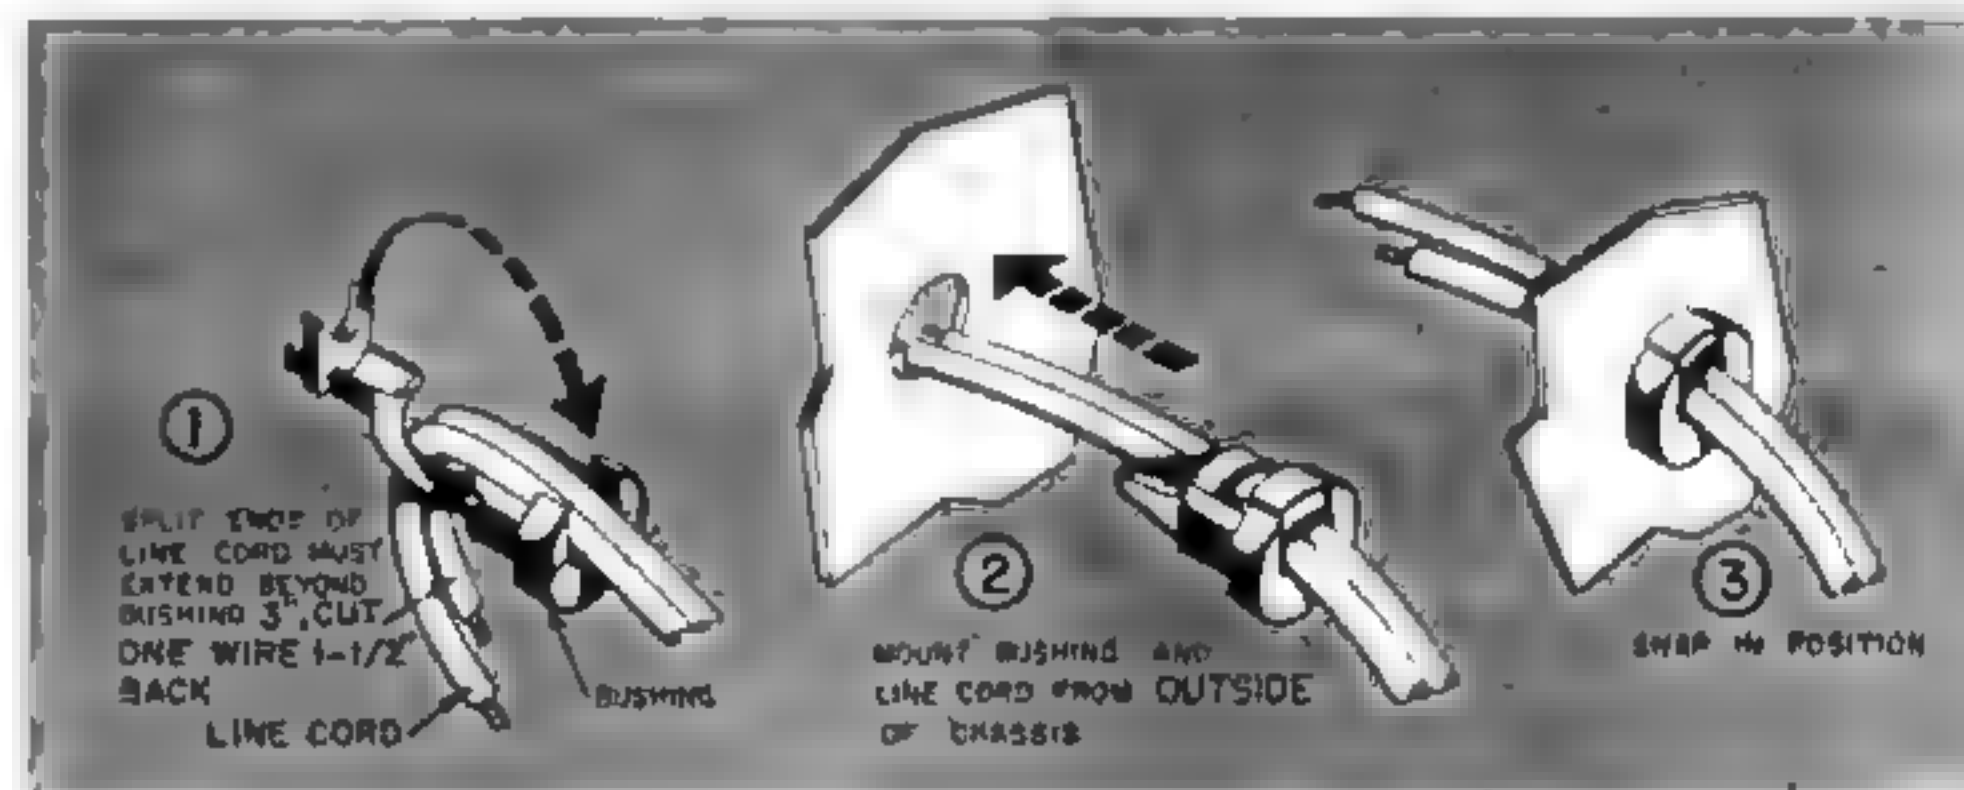

FIGURE 19. LINE CORD MOUNTING
- ☒ Line cord and bushing. Mount as shown in Figure 19. Cut 11 $\frac{1}{2}$ " from one lead. Strip the insulation back $\frac{1}{4}$ ". Solder the long line cord lead to terminal 5 of TS-7 (2 wires). Solder the short line cord lead to terminal 2 of the fuse holder.